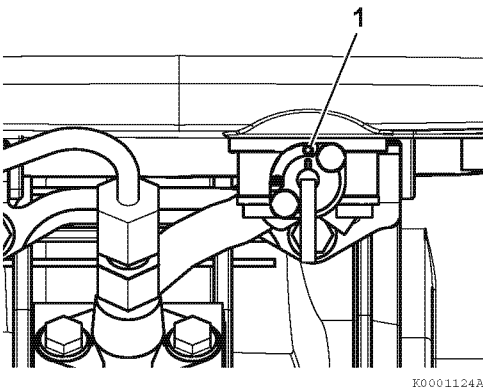

Figure 1
2. Make sure the fuel cock is in the ON position (1, **Figure 1**).